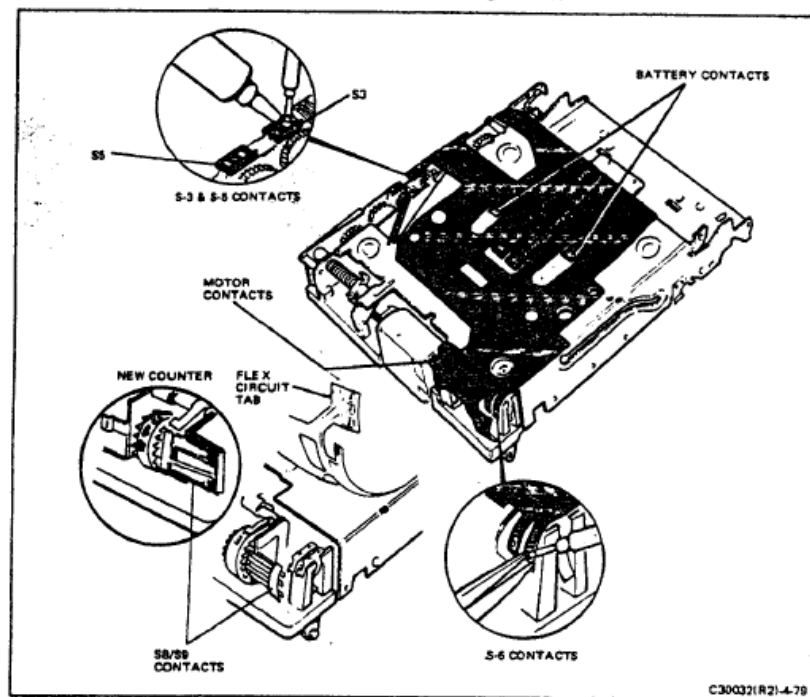

FIGURE 4-79 SOLDER POINT IDENTIFICATION
4. Using the specified soldering iron and solder-removing device, unsolder the three S8/S9 counter switch contacts from the flex circuit (Figure 4-79).
NOTE: Newer counters have a different pattern of contacts as shown by the inset in Figure 4-79.